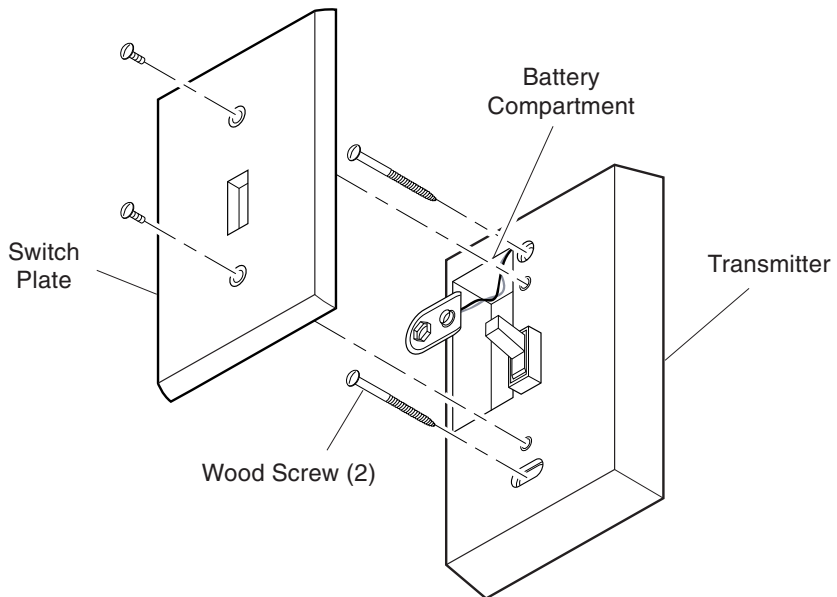

Figure 4 - Receiver Installation
12. **Install the 9-volt battery.** Remove the switch cover from the transmitter (save the two screws). Snap the battery clips over the battery terminals and set the battery into its compartment (see Figure 4).